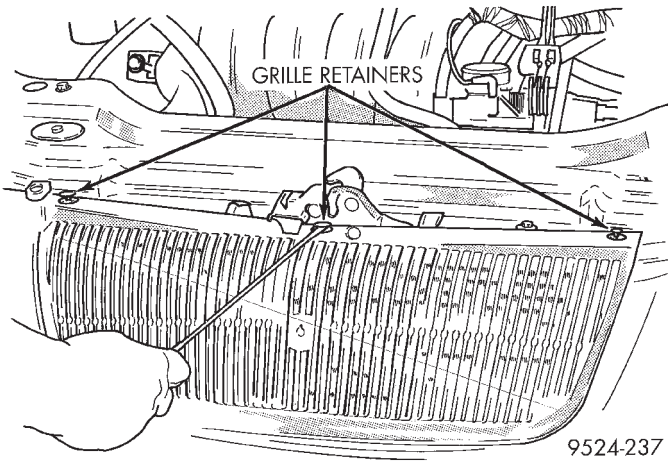

Fig. 25 Grille Retainers
(1) Remove refrigerant from the A/C system using a refrigerant recovery machine.
(2) Disconnect and cap A/C lines at the condenser.
(3) Remove grille retainers (Fig. 25). Refer to Group 23, Body for removal procedures.